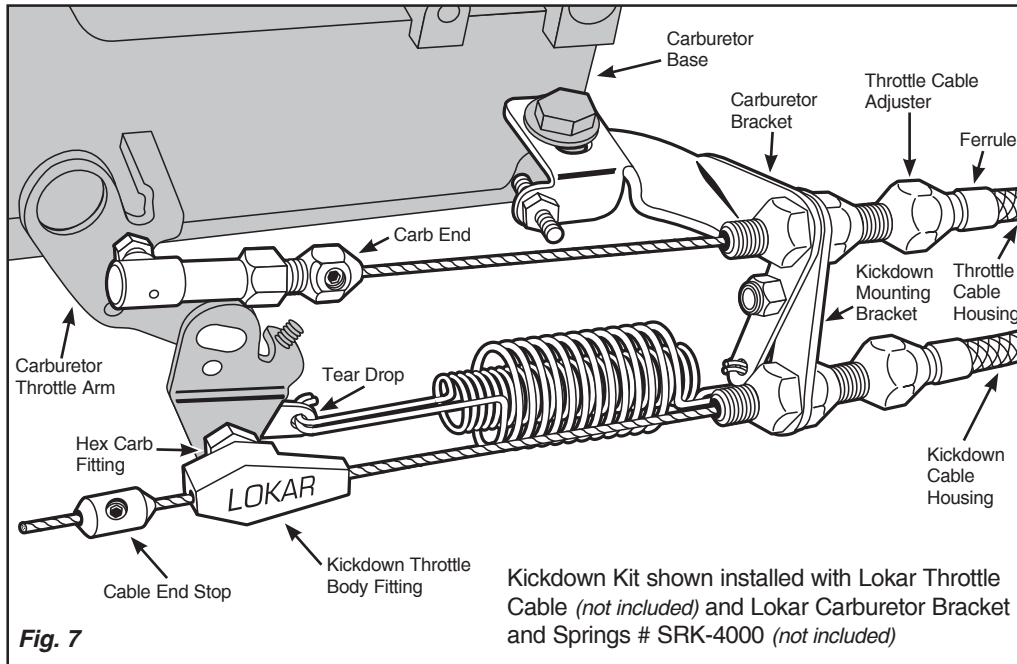
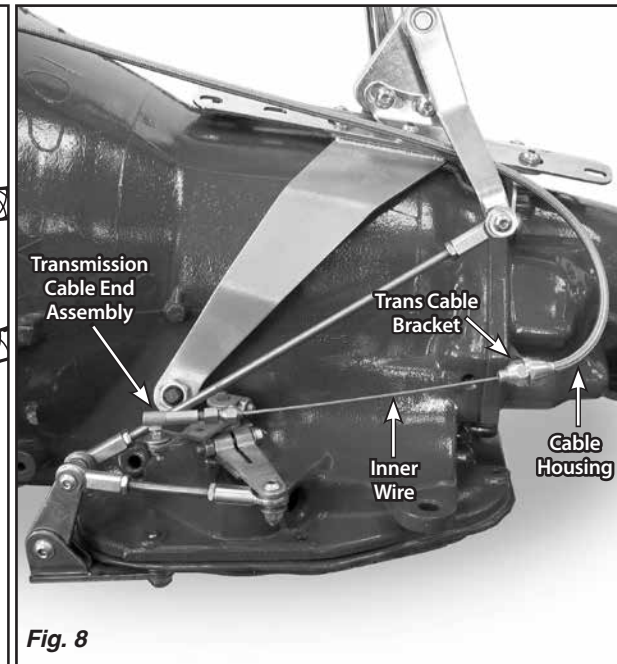

Fig. 7
Fig. 8
Step 7: The tear drop (not included, part of SRK-4000 Carburetor Bracket and Springs) will be attached to the carburetor throttle arm by the hex carb fitting. Separate the hex carb fitting from the kickdown throttle body fitting. Install the hex carb fitting and the tear drop onto the carburetor throttle arm as shown in Fig. 7. Hook the springs to the tear drop and tighten the nylock nut on the hex carb fitting. Then, back the nylock nut off just enough that the tear drop can pivot freely.
Final installation should look like Fig. 7 and Fig. 8.